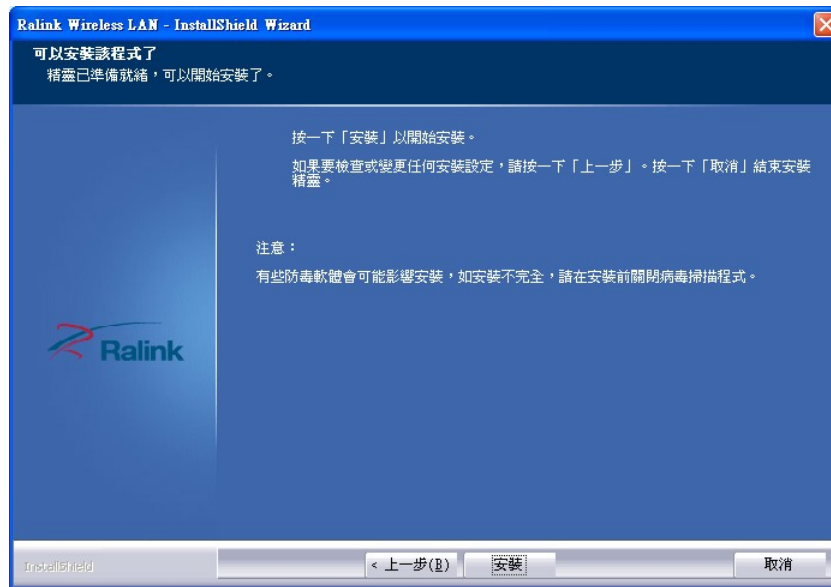

Figure 7-34: Wireless Driver Installation
Step 9: Click **INSTALL** in **Figure 7-34** to start to install the driver.